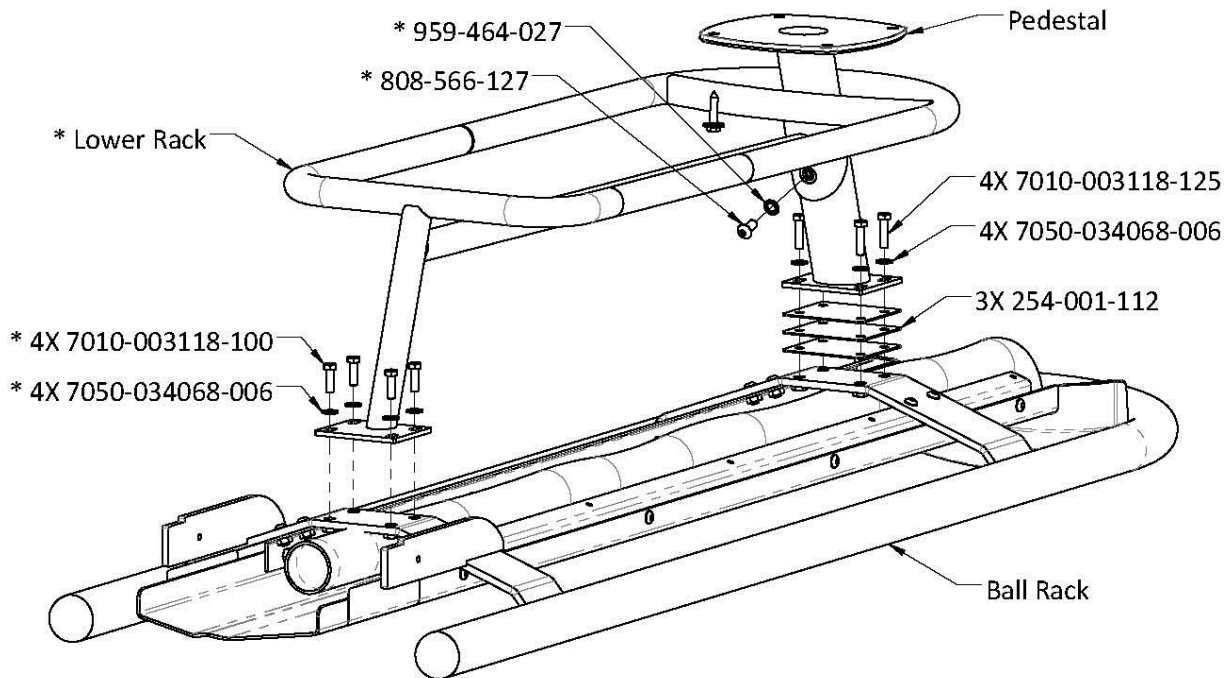

Figure 15, Lower Ball Rack Mounting
3. Install the pedestal centered on the slots as shown in Figure 15. Use 3x1/8" thick shims between the pedestal and the rack. Shim(s) can be removed as needed later to achieve proper rack slope.